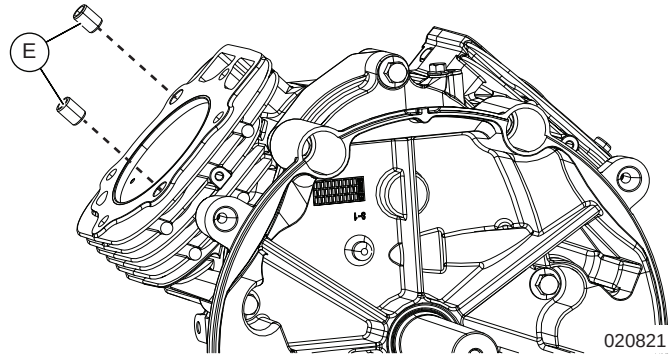

Figure 6-39. Remove Cylinder Head Bolt Dowels
2. Remove and discard head gasket (D).
3. See Figure 6-39. Remove the cylinder head bolt dowels (E) from cylinder head assembly.